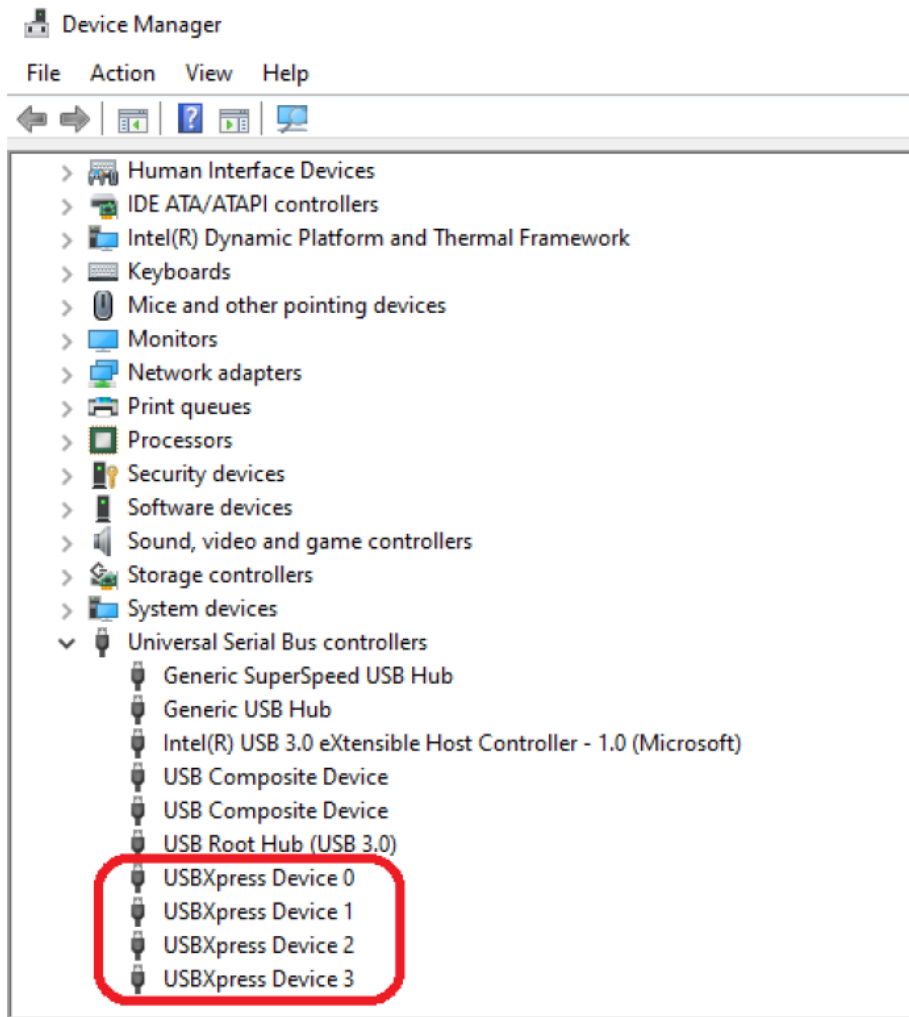

Figure 3. CP210x in Device Manager Using the USBXpress Driver
If the USBXpress drivers are used, the CP2108 will appear as four USB USBXpress devices as shown in Figure 3. The USBXpress driver must be customized using application note, “AN220: USB Driver Customization”. Examples for how to communicate with the device using the USBXpress interface are included in application note, “AN169: USBXpress Programmer’s Guide”, on the www.silabs.com/interface-appnotes page.
- Added "Figure 3: CP210x in Device Manager Using the USBXpress Driver"